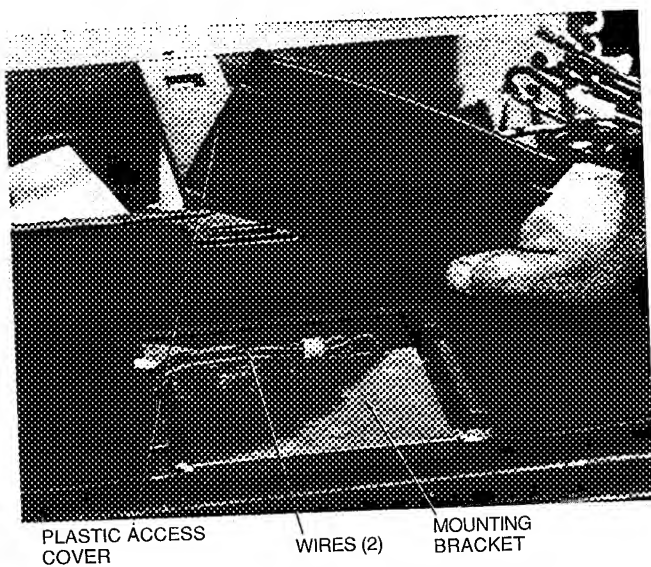

Fig. 25 – Heater Assembly Wires
2. Remove plastic access cover on top of partition. (See Fig. 25.)
4. Remove 2 wires from heater assembly (Fig. 25). Mark wires to aid in reassembly.